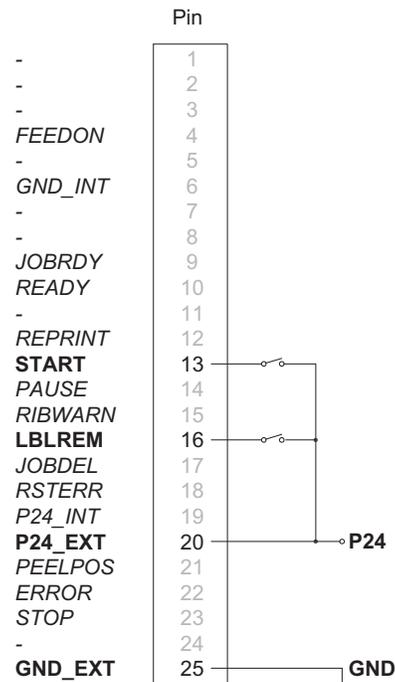
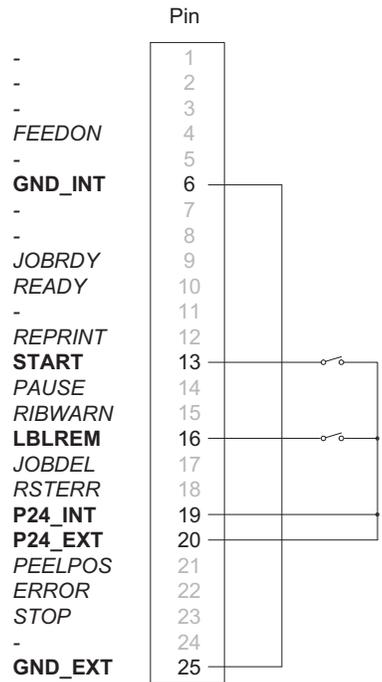

Figure 51: Operation with external voltage supply
Figure 52: Operation using the internal voltage
- External circuit as shown in Figure 51 / Figure 52